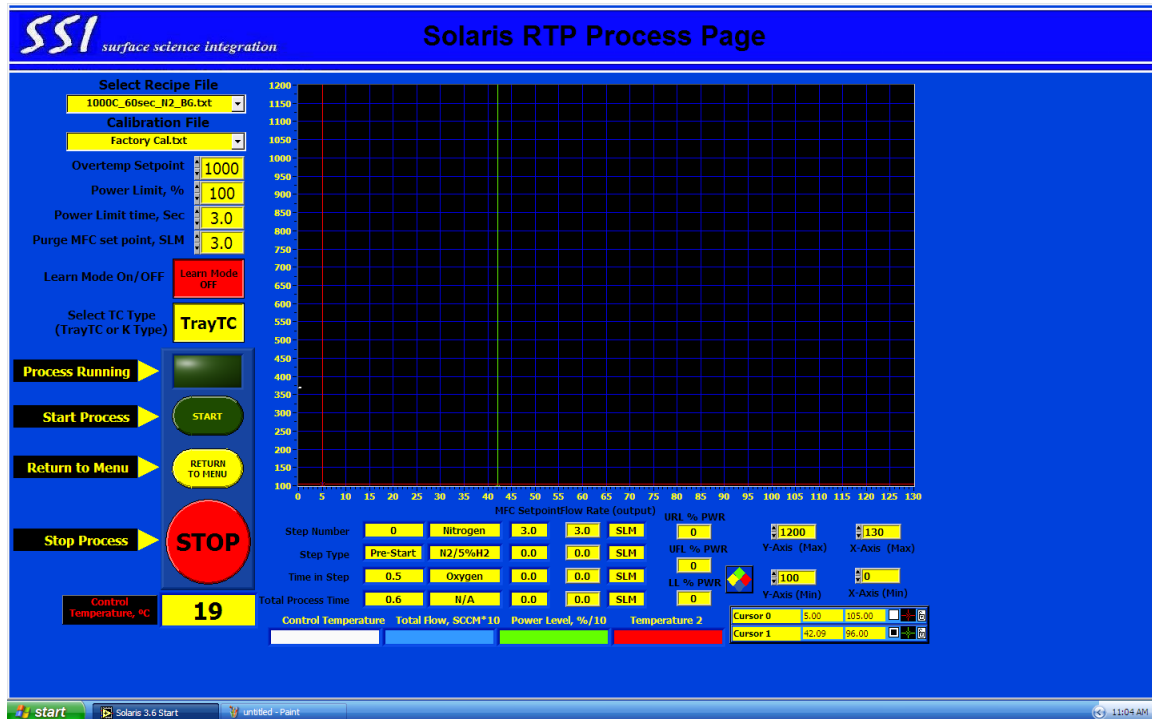

Figure 6. Screen for Run Process menu.
4.6 Next select the “Run Process” menu. In this menu, the user can select the process recipe and track the process flow with the graphic tool that follows the RTA process. Figure 6.